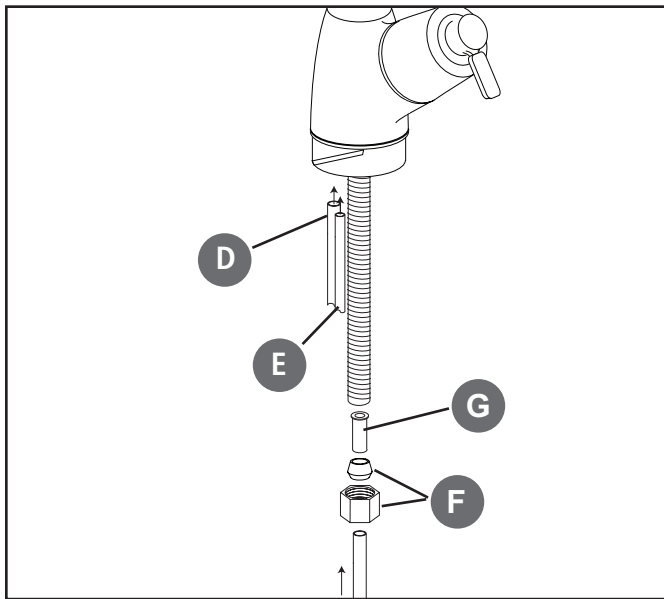

Figure 5
- C) Look down through the base for this step. Before tightening the bolts, determine the correct rotation of the base. The final position of the handle will be 45 degrees off from the bolt heads. Use Figure 5 to help determine the best position for your installation. Through the hole in the base, hold the toggle in position while tightening the bolt. The spring loaded toggle will contact the bottom of the counter top and hold in position. Do not fully tighten. Repeat for second toggle bolt. Check the final position of the base and toggle bolts. Tighten the two bolts evenly. **DO NOT OVERTIGHTEN.** Tighten only far enough to prevent the base from rotating when the faucet is rotated in place.